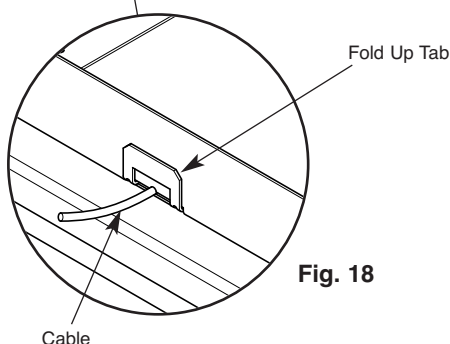

Fig. 18
8. With the tab pulled through the slot in the flange of the fire box, pull tight and bend the tab upwards to secure (Fig. 18).
9. Cut off the remaining cable flush with the front of the fire box (Fig. 18).
4. Construct a suitable non-combustible platform large enough to sit the fire box on and level with the top of the lower horizontal batten (Fig. 18).